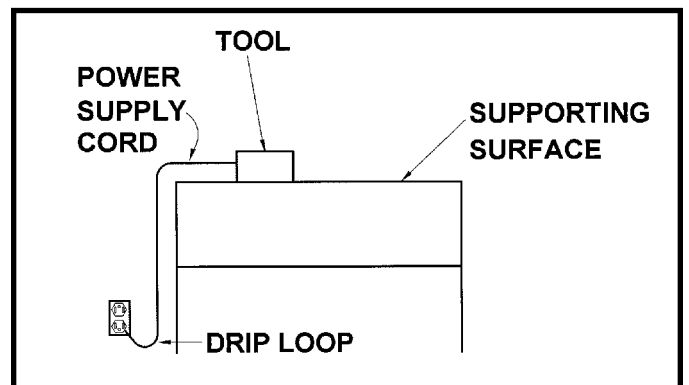

Fig. 4
5. ⚠️ **WARNING:** Before connecting the machine to the power circuit, make sure power switch is OFF and the power circuit voltage is the same as that shown on the specification plate. Connect machine to power circuit. To avoid the possibility of the appliance plug or receptacle getting wet, position the machine to one side of a wall mounted receptacle to prevent water from dripping onto the receptacle or plug. The user should arrange a “drip loop” Fig. 4, in the cord connecting the machine to a receptacle. The “drip loop” is that part of the cord below the level of the receptacle, or the connector if an extension cord is used, to prevent water traveling along the cord and coming in contact with the receptacle.
10. Connect machine to power source. ⚠️ **WARNING:** The user should arrange a “drip loop” Fig. 4, in the cord connecting the machine to a receptacle. The “drip loop” is that part of the cord below the level of the receptacle, or the connector if an extension cord is used, to prevent water traveling along the cord and coming in contact with the receptacle.